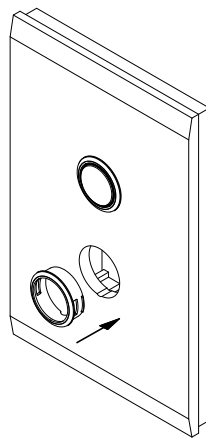

Fig 4: Insert supplied silver ring in wall plate
- Install the new silver ring supplied to the wall plate as per Figure 4.